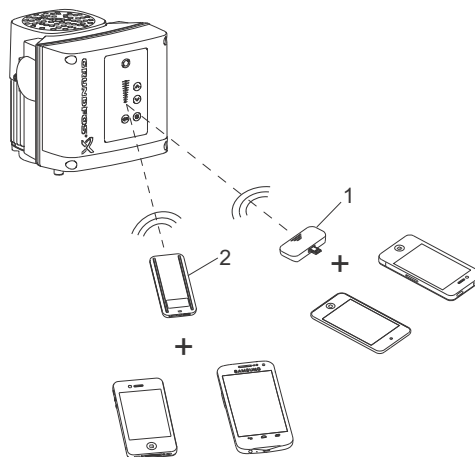

Fig. 12 Grundfos GO Remote communicating with the pump via radio or infrared connection (IR)
The Grundfos GO Remote offers the following mobile interfaces (MI). See fig. 12.